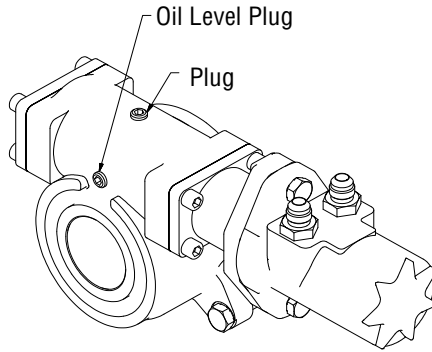

Figure 5-3, Gearbox Oil Plugs
1. Remove the top plug and the oil level plug from the Gearbox. (Figure 5-3)